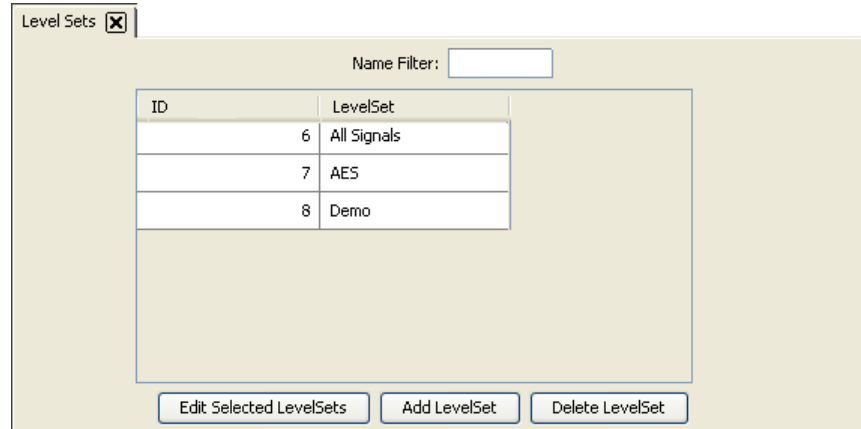

Figure 8-29. Level Sets Page
- 1 From the Navigation area, select the 'Configuration' pane and then 'Level Sets'. The 'Level Sets' page displays, as shown in Figure 8-29.